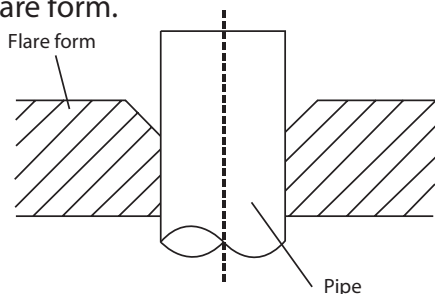

**Fig. 7.6**
- Place flare nuts on both ends of pipe. Make sure they are facing in the right direction, because you can't put them on or change their direction after flaring. See Fig. 7.6